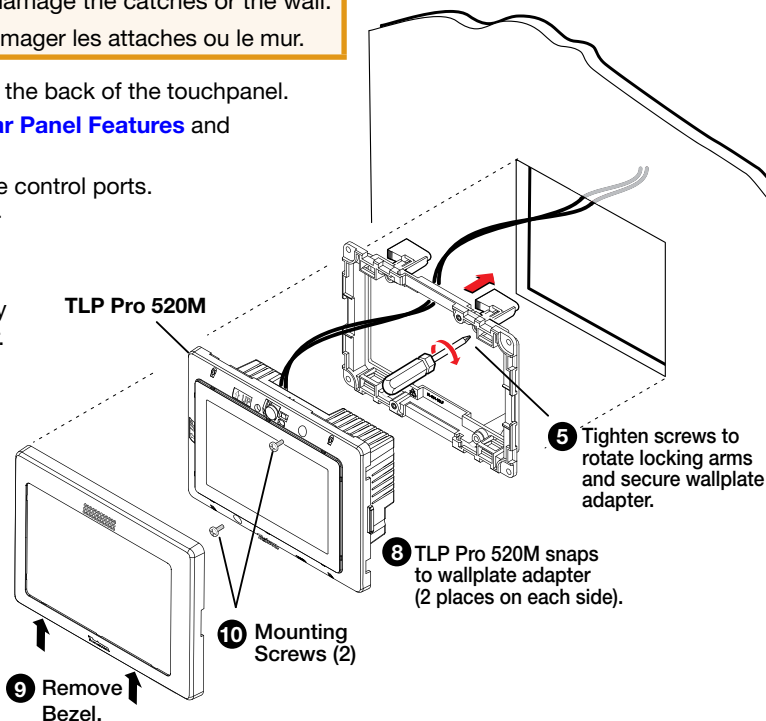

Figure 1. Mounting the TLP Pro 520M
Figure 1 shows the TLP Pro 520M. Mount the TLC Pro 521M in the same way.
5. Use a Phillips head screwdriver to tighten the locking arm screws of the wallplate adapter (see figure 1, **5**). As the screws tighten, the locking arms rotate behind the wall and hold the adapter in place.